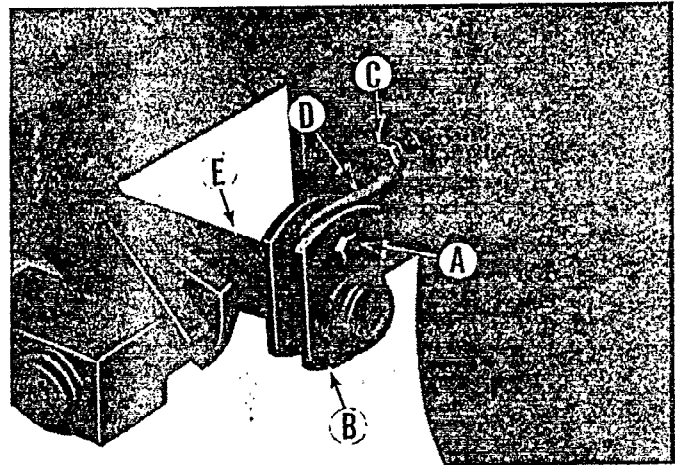

Figure 10.
- A. Remove the screw (Ref. A, Fig. 10) and nut from the links (Ref. B, Fig. 10).
- B. Loosen the screw (Ref. C, Fig. 10) which clamps the brake actuating arm (Ref. D, Fig. 10) to the cam.
For proper operation of the brakes both arms must be adjusted the same amount. The brake actuating assembly (Ref. E, Fig. 10) must be parallel to the frame.
- D. Replace the arm (Ref. D, Fig. 10) and tighten the screw (Ref. C, Fig. 10).
- E. Replace the screw (Ref. A, Fig. 10) and nut (hex center loc). Do not over-tighten, there should be
- F. Adjust brake actuating arm (Ref. D Fig. 10) to obtain pedal movement as shown in Fig. 10A.